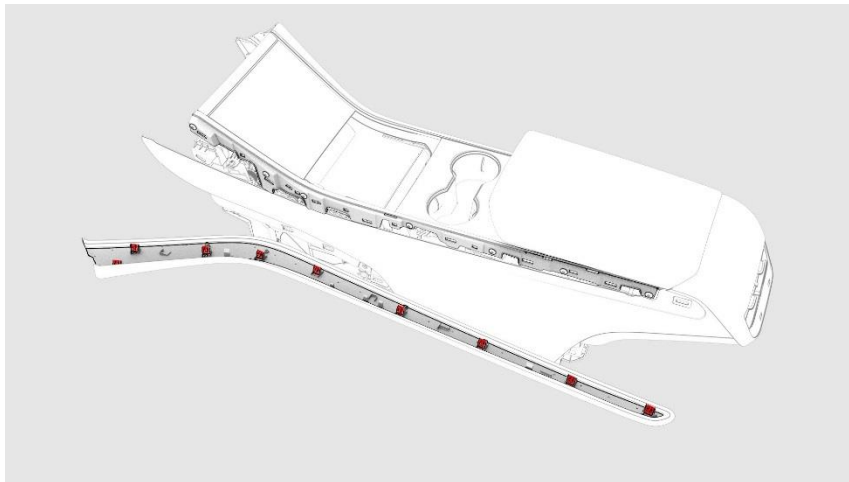

Figure 2 – LH side shown; RH side similar
2. On both sides of the center console, use a trim tool to release the clips that attach the center console décor trim to the center console, and then remove the décor trim (Figure 2).
- On both sides of the center console, engage the clips that attach the center console décor trim to the center console (Figure 2).